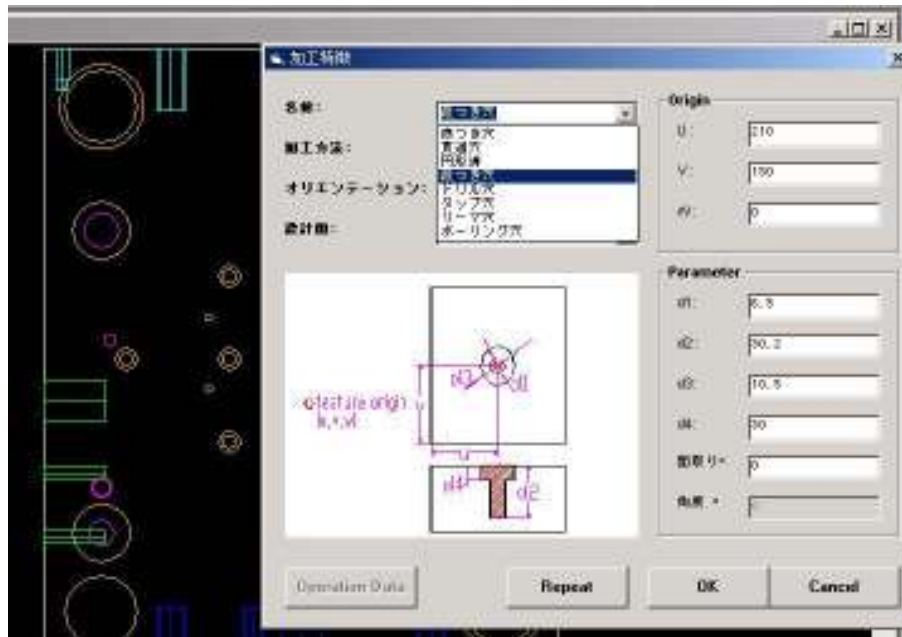

Figure 2-32. Operation to change the type of machining feature
Press ENTER upon completion of grouping. Perform the same grouping operation on the other features. Click on EDIT icon, and select any feature that has been grouped previously. Command line will ask if user wants to edit the group (Y) or the individual feature (N). Input Y or N followed by ENTER to bring up a dialog box of machining feature as shown on Figure 2-32. Edit the feature accordingly then press on OK button. Figure 2-32 shows an example of changing the type of machining feature.